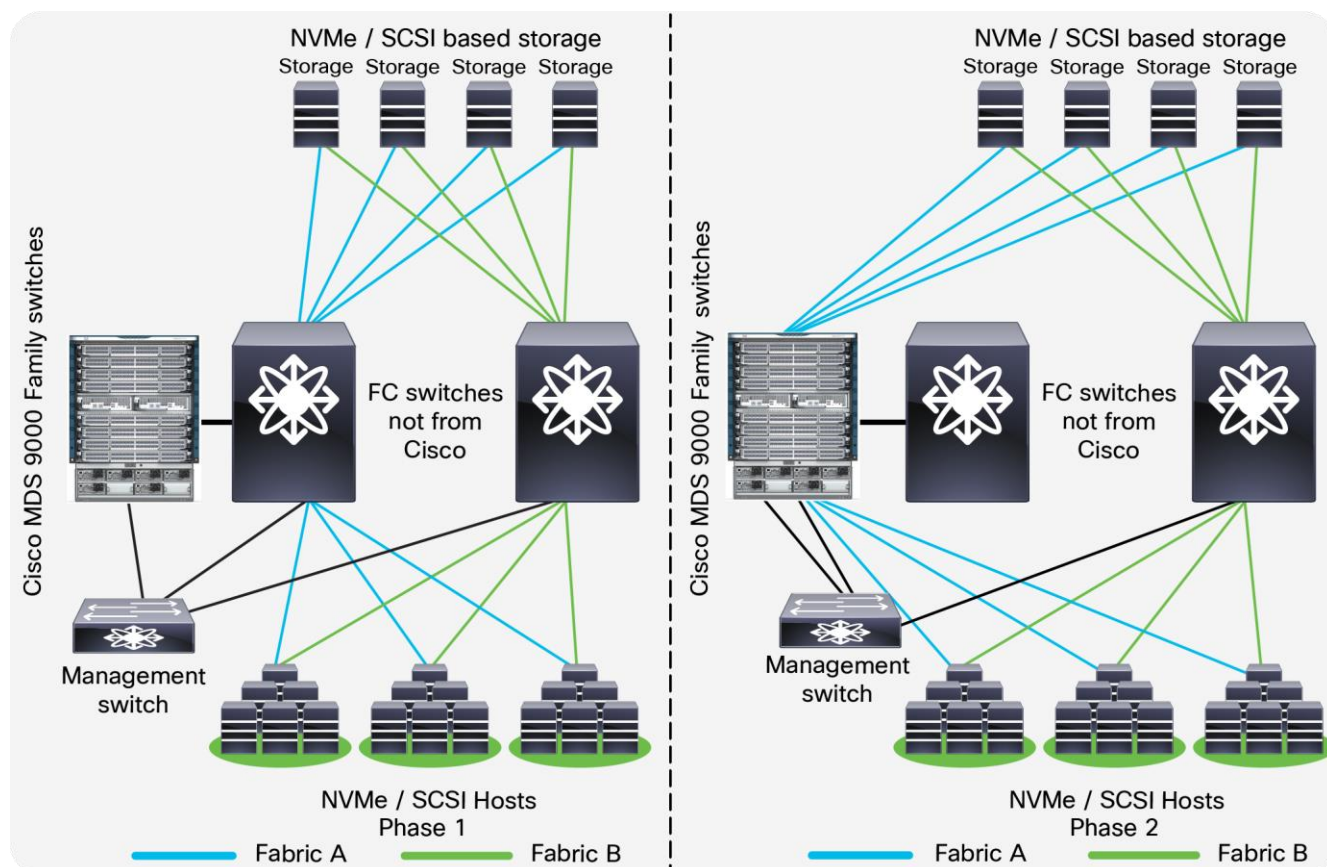

Figure 7.
Step 1. Connect the Cisco MDS switch to the Brocade switch on the fabric to the left (Figure 7 Phase 1). Complete the basic configuration as performed for the management port, FC ports, VSANS, etc. Connect Inter-Switch Link (ISL) between the Cisco MDS SAN switch and the Brocade switch. Now turn on the appropriate interoperate mode on the selected VSAN and start redistributing zoning information from the Brocade switch to the Cisco MDS SAN switch.
Step 2. After the configuration migration is complete, connect the new Cisco MDS switch to the existing storage array and servers and start moving the production traffic through it. At this point, both the Brocade and Cisco SAN switches pass production traffic in parallel (Figure 7 Phase 2).